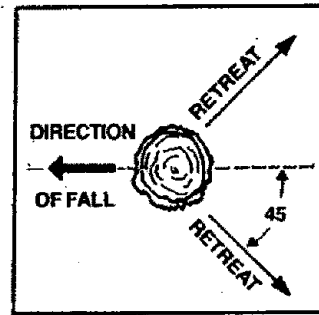

Figure 18
- Plan a clear retreat path to the rear and diagonal to the line of fall. Figure 18.